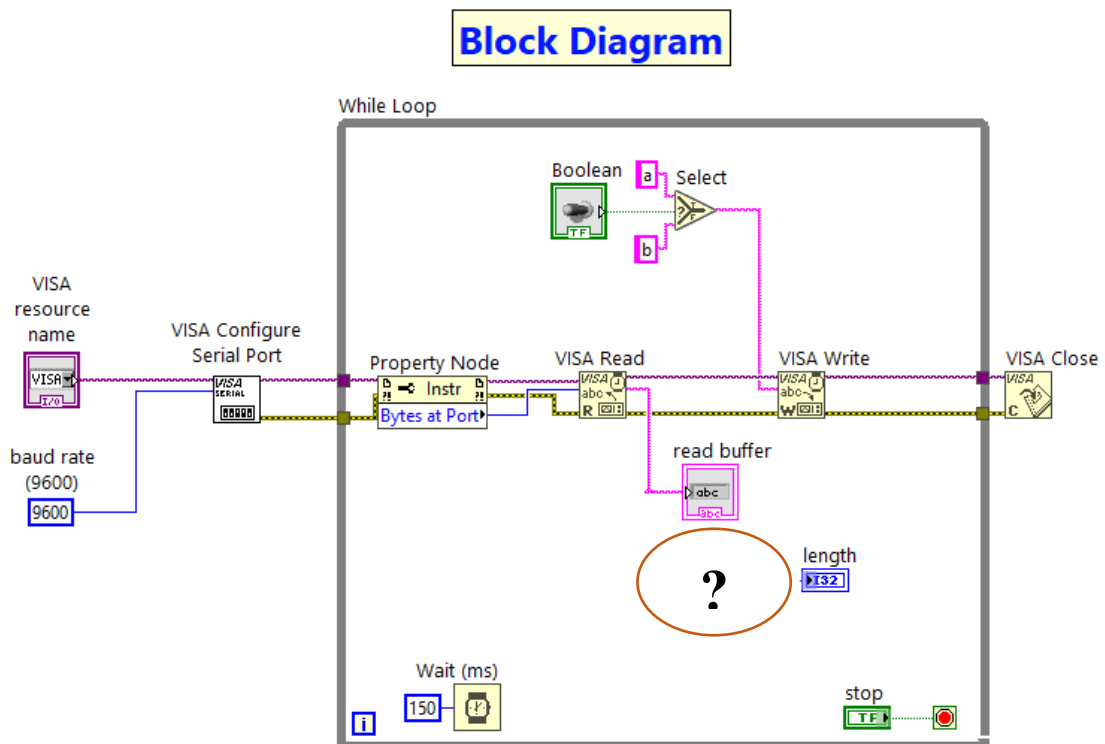

Figure 3. Block Diagram view
3.- On the Block Diagram: (Figure 3)